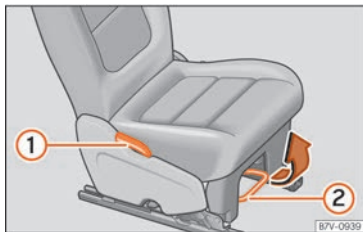

Fig. 130 Adjusting rear seats
- Pull the lever and adjust the seat backrest to the desired position » Fig. 130 ① » ❶. The seat backrest must be engaged when the lever is released!